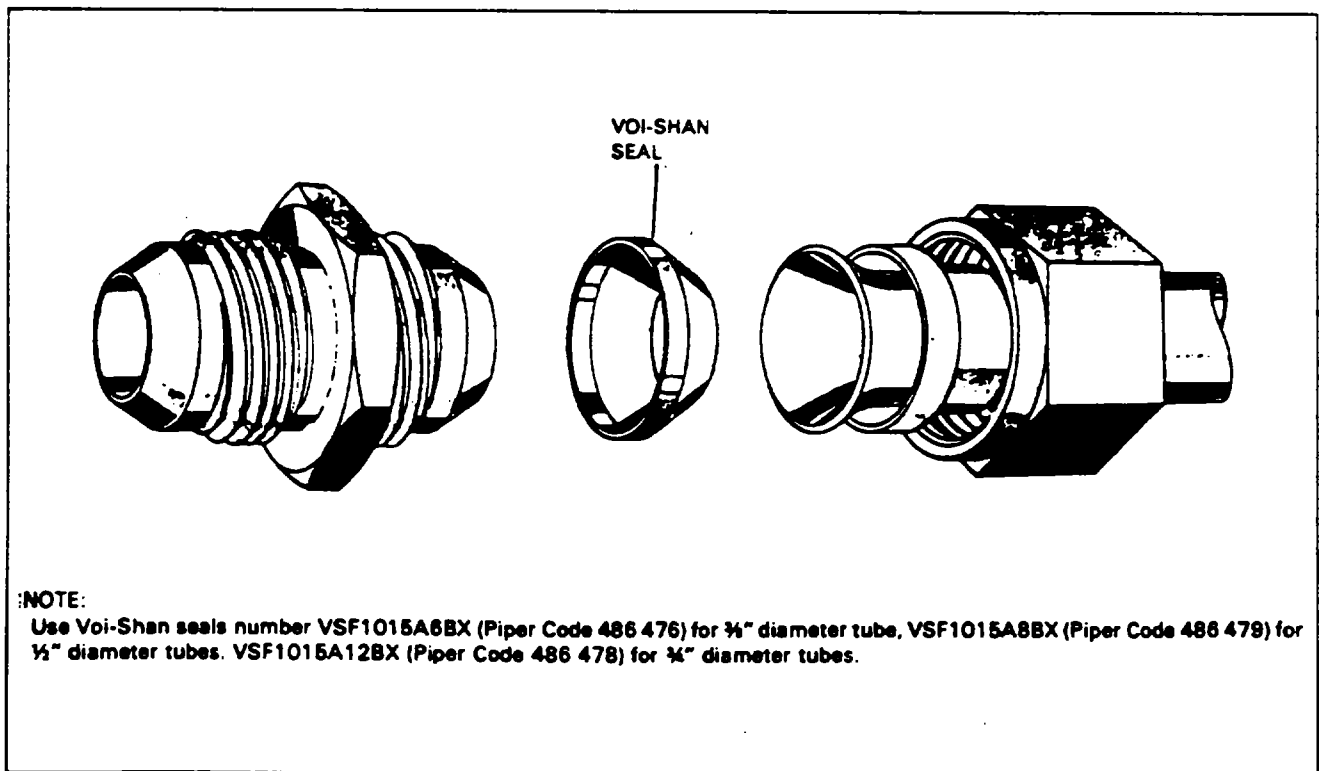

Figure 21-36. Installation of VOI-SHAN Seals
2. Flared fittings are sometimes difficult to seal. On the hard-to-get-at fittings, it may be necessary to install Voi-Shan seals. (Refer to Figure 21-36.) To install the seal, place seal over the nipple end and place tube flare over seal and nipple. Tighten per the procedure given in paragraph 1 except tighten only once.